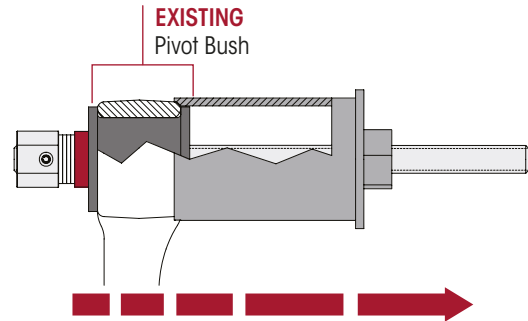

Figure 88: Tool Configuration BEFORE Removal
6. Snug the threaded drive screw to hold the thrust washers, spacer, U-beam assembly with the existing pivot bush and the receiving cylinder in place. Refer Figure 88.